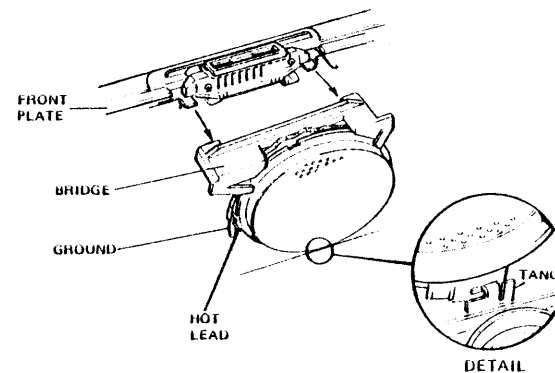

FIGURE 4-4
4. Reattach black transducer cable with the two push-on connectors to transducer. Wrap cable around top of transducer, along flange at back. Reattach the two push-on connectors to the transducer (Figure 4-4).
5. Marry bridge to transducer. Bridge will capture the cable wrapped around transducer. Push bridge onto two tangs holding it to front plate (see Figure 4-4).